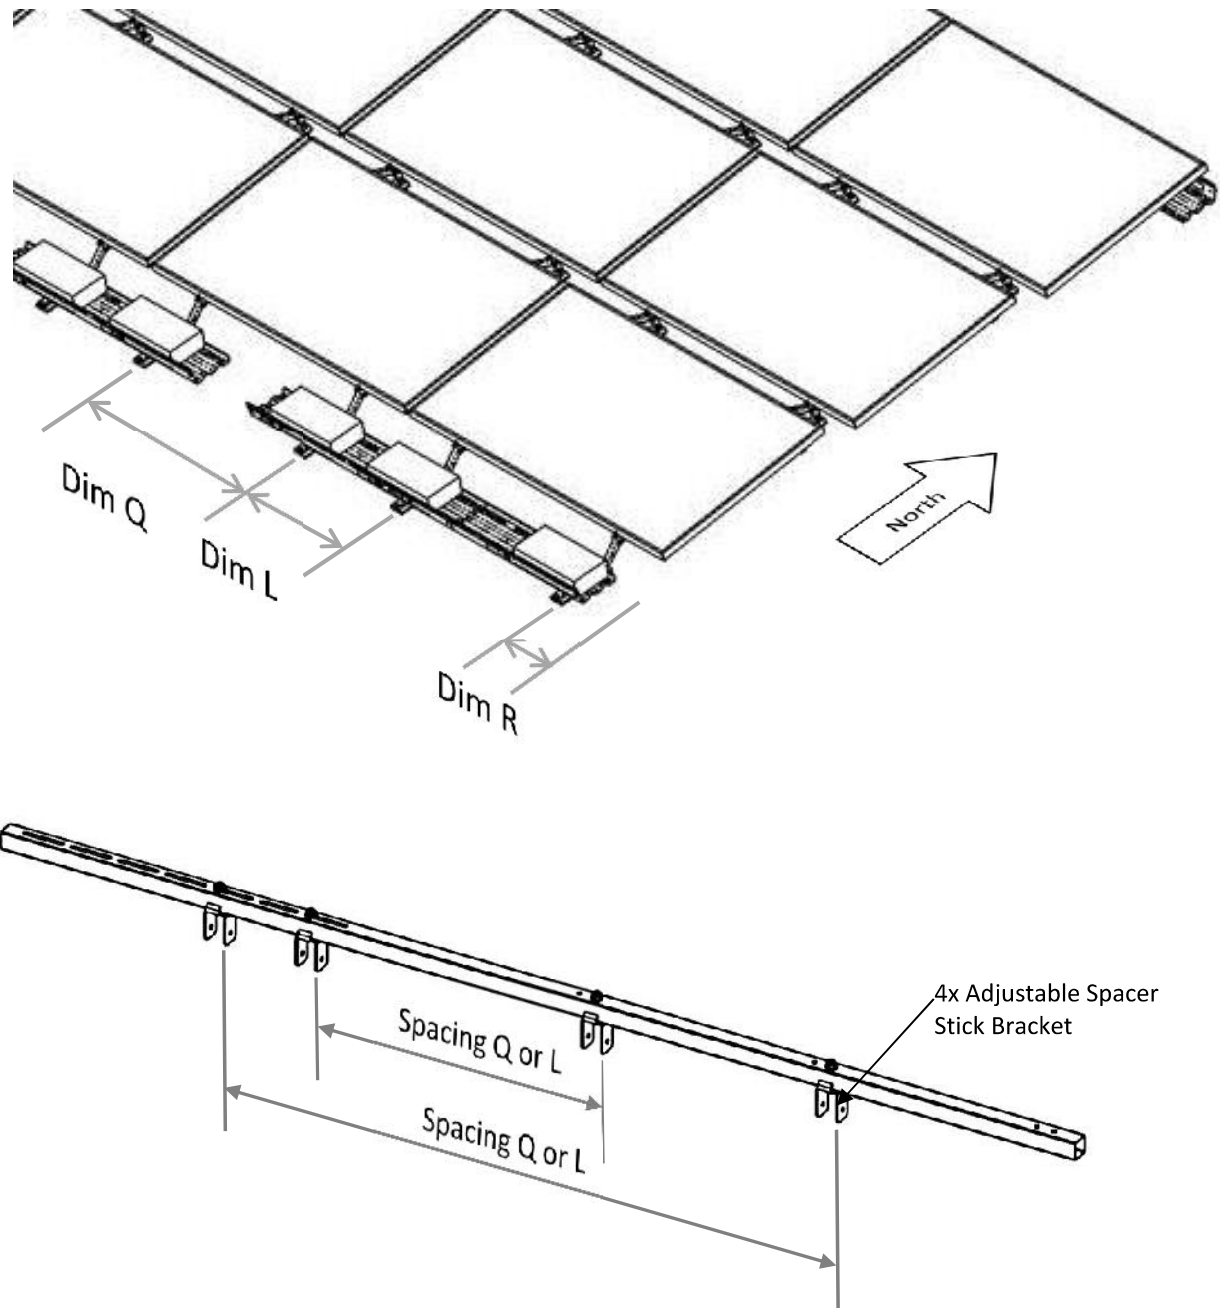

Figure 2 Spacer Stick
- Spacer Stick (supplied) see Figure 2 on page 8
- 2.1. Consult the Racking Construction Set for the Support spacing between modules (Spacing L) and Support spacing under modules (Spacing Q) (Figure 2). Dimensions L and Q are module dependent and vary by manufacturer. In some scenarios L is longer than Q while for others it is the opposite.